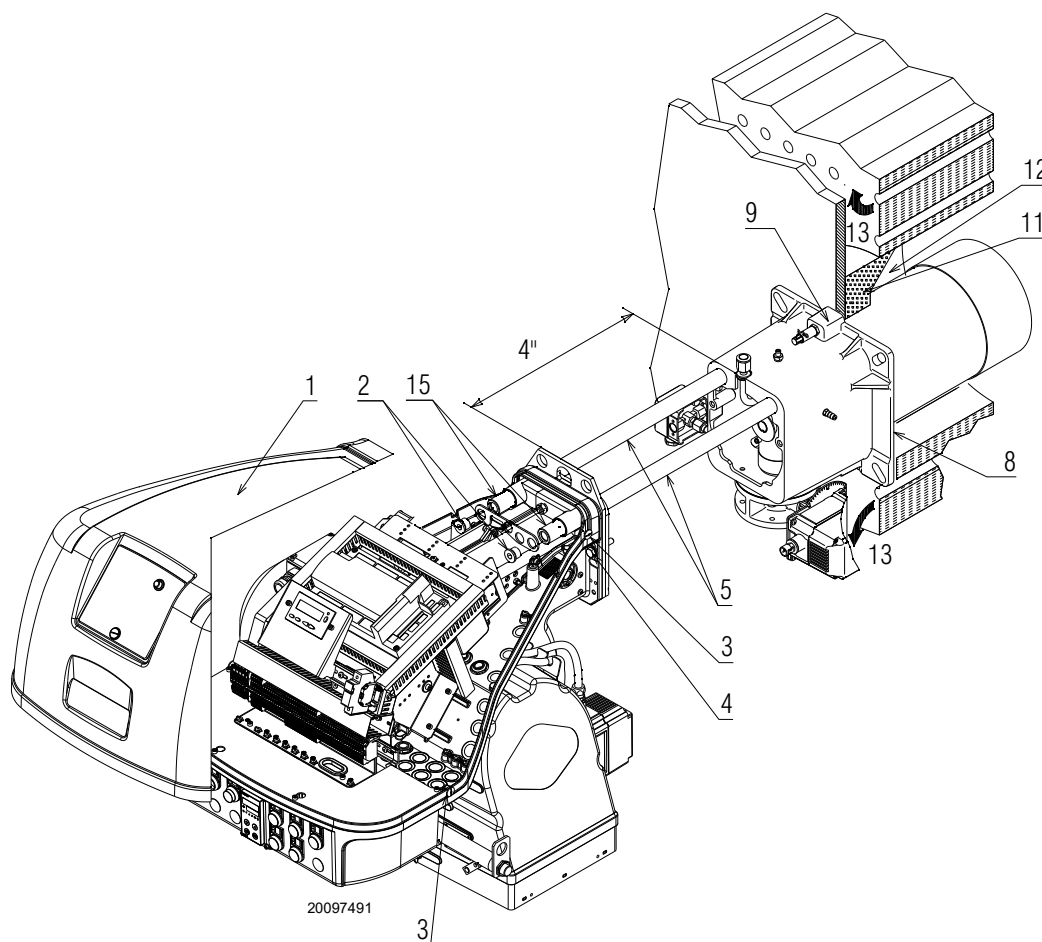

Fig. 12
For boilers with front flue passes 13)(Fig. 12) or flame inversion chambers, a protection in refractory material 11) must be inserted between the boiler refractory 12) and the blast tube 10). This protection must not compromise the extraction of the blast tube.
- Secure the burner to the boiler, fixing the flange 9)(Fig. 12) to the boiler plate and interposing the insulating gasket 8).
- loosen the 4 screws 3)(Fig. 12) and remove the cover 1);